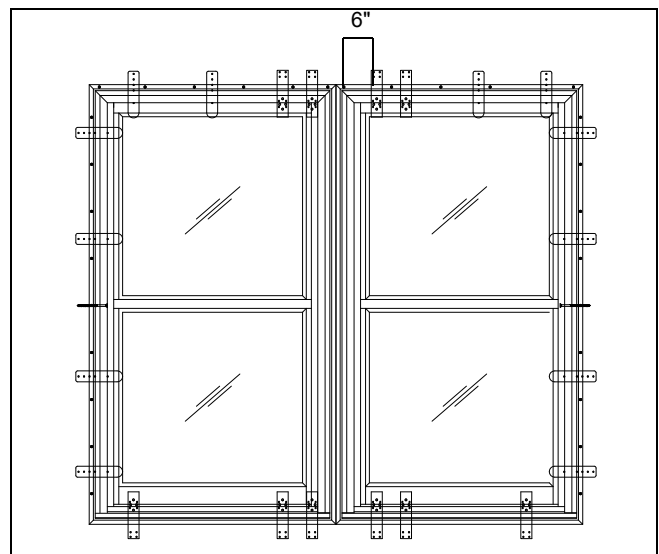

Figure 8
NOTE: All mulled units require fastening with two screws or structural brackets on each side of the mullion joint. Spacing shall be no more than 6" (152) from mullion joint. Additional brackets should be placed at the corners to level unit. See figure 8.